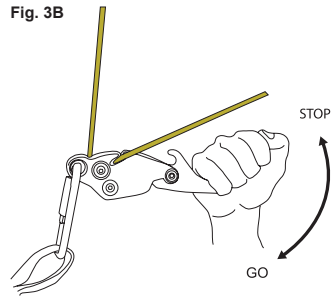

Fig. 3B
7. The speed of the descent is adjusted with one hand on the handle and the other hand holding the line below the device. Start with the line at an angle down of the slot as shown in fig. 3B. When moving the handle down, the speed increases. When moving the handle upwards or releasing the handle, the device will stop. Increase or decrease friction by moving the line into the narrow part of the slot or away. It is important to always keep one hand on the line to control the descent.
8. The speed of the descent is regulated with one hand on the handle and the other hand holding the line below the device. Start with the line at an angle out of the slot. With the descender upside down, the descent starts by pulling the handle upwards fig. 7, and stops when moving the handle downwards or by releasing it. Increase or decrease friction by moving the line into the narrow part of the slot or away as shown in fig. 3B. It is important to always keep one hand on the line below the device to have better control of the descent.